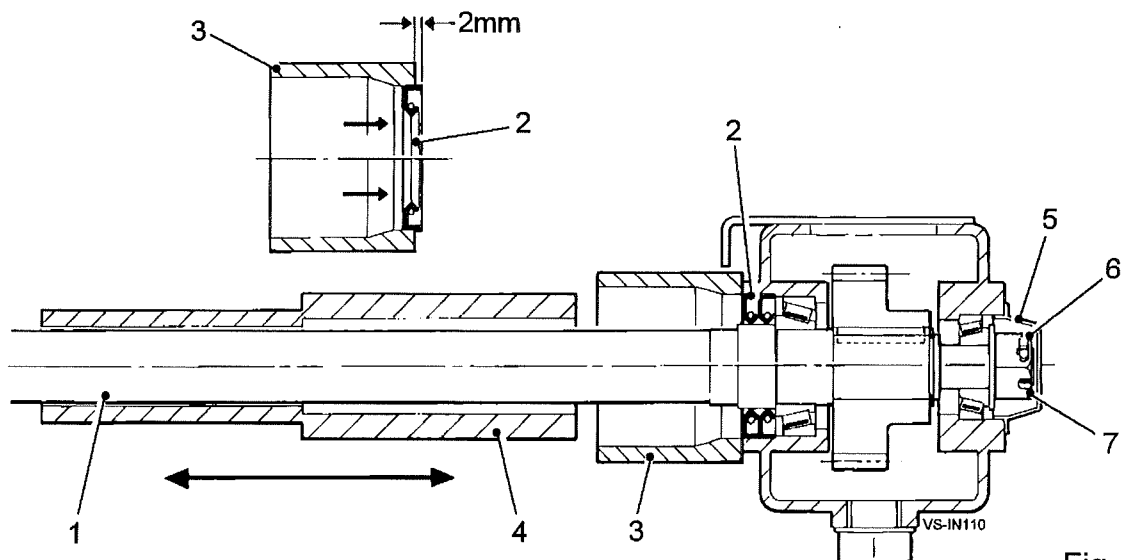

Fig 43
The cleaner unit roller shafts (item 1, figure 43) are each fitted with an oil seal (item 2, figure 43) which is press-fitted into the gearbox casing. The seals prevent loss of oil from the gearbox and also prevent the ingress of dirt. If leakage is apparent, the seals can be replaced in situ by using the guide sleeve and slide hammer service kit.
2. Prise out the worn seal (item 2, figure 43) taking care not to damage the seal aperture in the gearbox. Clean the seal aperture and the surrounding face of the gearbox.
4. Push the new seal into the compression ring (item 3, figure 43) until the seal protrudes approximately 1-2mm beyond the ring face (see figure 43). Slide the compression ring complete with seal over the roller shaft (item 1, figure 43) and locate the seal into the aperture.
5. Locate the slide hammer (item 4, figure 43) over the roller shaft and, holding the compression ring and seal firmly against the gearbox face, bump the seal into the gearbox. If required, a second seal can be fitted behind the first to give additional backup.
1. Clean the loose soil from around the gearbox face and prise out the end cap (item 5, figure 43).
2. Remove the split pin (item 6, figure 43) from the castellated nut (item 7, figure 43) and tighten the nut to a torque of 22 lb/ft.
3. Check the roller shaft (item 1, figure 43) again for free play.
4. Refit the split pin (item 6, figure 43) in the next clear hole, tightening the nut a maximum of one flat if needed.